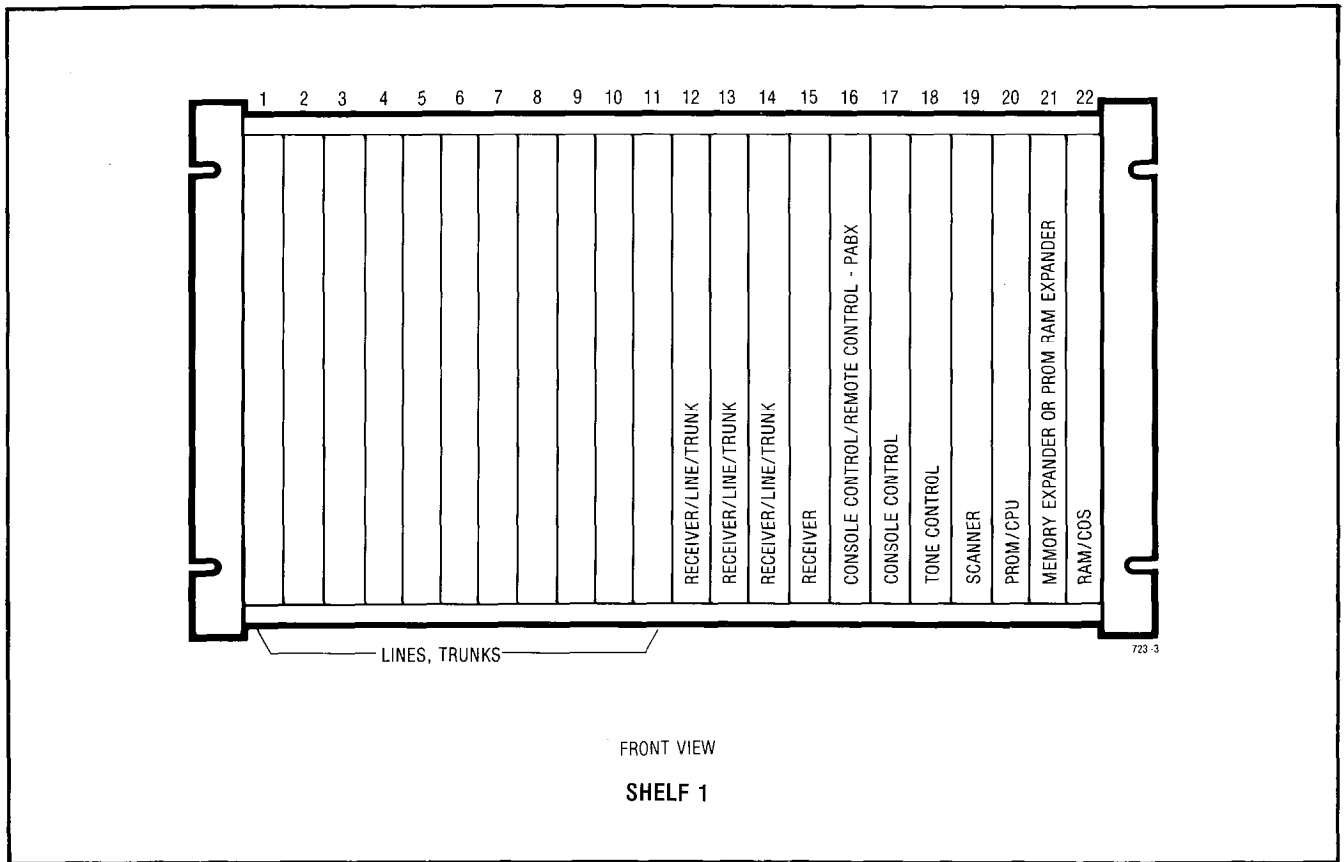

Fig. 4-1 Equipment Card Locations
4.17 Both the SX-100 and SX-200 employ fourteen types of cards (Fig. 4-1), which may be used in either system minimizing stocking and control problems for field maintenance. The cards used in the system are described below.
4.18 Most of the cards employed in the system hold LEDs to display the status of the card. In addition to the LEDs some cards have a number of switches. Fig. 4-1 shows the card positions, and Fig. 4-2 shows the location of all switches and LEDs. The functions of each switch and indicator is described below.